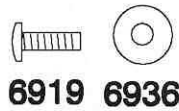

**Fig. 117**
□ **Fig. 117** In the motor bag are two #6515 gold, metric, motor mounting screws. These screws have finer threads, 3mm, and are used **ONLY** to mount the motor. Slip the motor in the motor mount and start the bottom screw in first. Do not tighten all the way down yet. On the top screw, put a #6936 aluminum #4 washer on the screw and screw it in, but not tight. Now we'll set the gear mesh. By moving the upper screw, forward or back, we'll be moving the motor closer to, or away from the plastic spur gear. What we want to do is to get the metal pinion gear as close to the plastic spur gear as we can without binding up the gears. The easy way to check this is to put your finger on the plastic gear and see if you can rock it in the teeth of the metal gear. The two gears should be as close as possible, while still being able to very slightly rock the plastic gear.